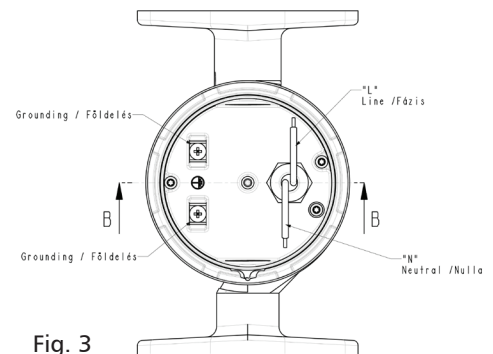

Fig. 3
3. Using a minimum size of 14 AWG copper electrical wire (refer to your local code for wiring instructions), wire the motor to a single phase power source that matches the electrical rating on the pump nameplate. See Fig.3. Use the size of electrical wire as dictated by local code.
4. Connect the ground wire to one of the ground screws inside the conduit box. See Fig. 3.